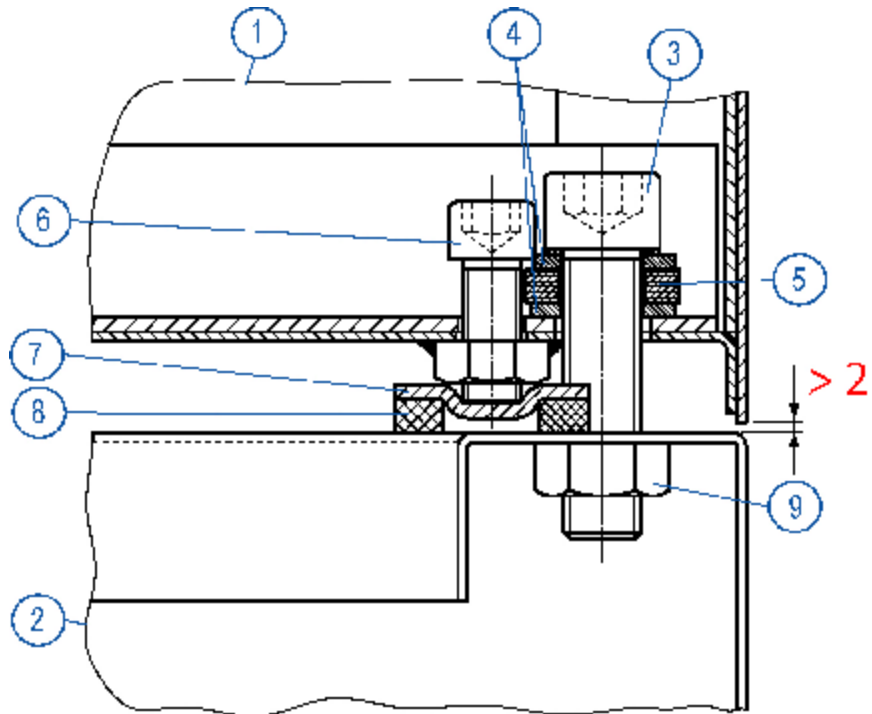

Figure 3: Cross-section of the Attachment
The properly installed TVM actually sits on the rubber supports of the nivelling set and not directly on the pedestal, see Figure 3 on page 12.
- 8 Set nivelling plates (consisting of the metal support, pos7, and rubber support, pos 8, in Figure 3 on page 12) in the appropriate places on the base by each mounting hole:
- 10 Insert washers, rubber washer and mounting bolts into the two back holes of the TVM as shown in Figure 3 on page 12. Tighten them slightly to ensure that the TVM cannot tip over anymore.
- 14 Tighten leveling screws so far down until the TVM stays approximately 2 mm off the pedestal (see Figure 3 on page 12). You can also level the TVM slightly with these screws.
- 9 Set nivelling plates (consisting of the metal support, pos7, and rubber support, pos 8, in Figure 3 on page 12) in the appropriate places on the base by each mounting hole according to Figure 5 on page 16.